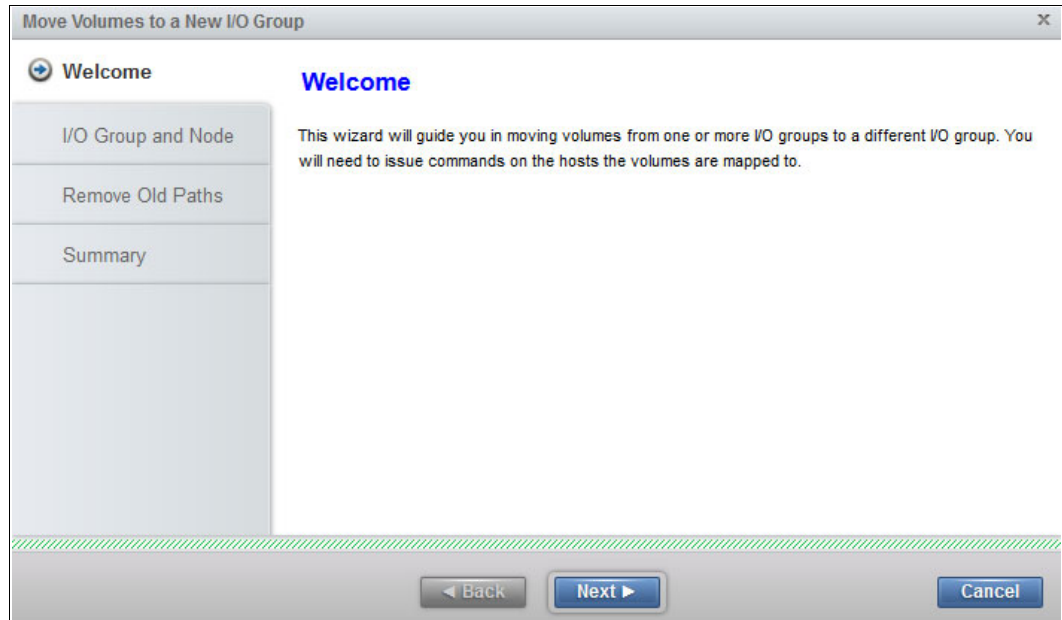

Figure 5-69 Move Volumes to a New I/O Group wizard
- From the Volumes menu select the volumes to be moved to another I/O group, right-click and select **Modify I/O Group**. The Move Volumes to New I/O Group wizard opens (Figure 5-69 on page 220).